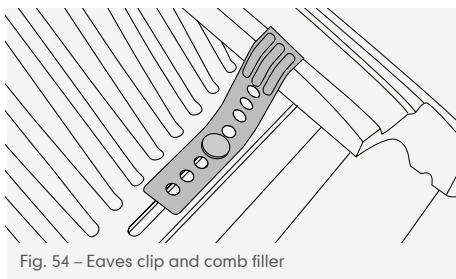

Fig. 54 – Eaves clip and comb filler
- 2 All eaves course tiles should be twice fixed; nailed with 38mm x 3.35mm aluminium nail and clipped using a Lincoln eaves clip nailed to the fascia or tilting fillet (Fig. 54).